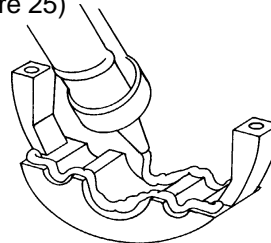

FIGURE 24 - APPLICATION OF SILICONE SEALANT
6.28 Use the tube of sealant and a caulking gun to lay 1/4" (.62 cm) wide beads of silicone lengthwise across seam and 1/4" (.62 cm) from each outside edge. (Figure 24)